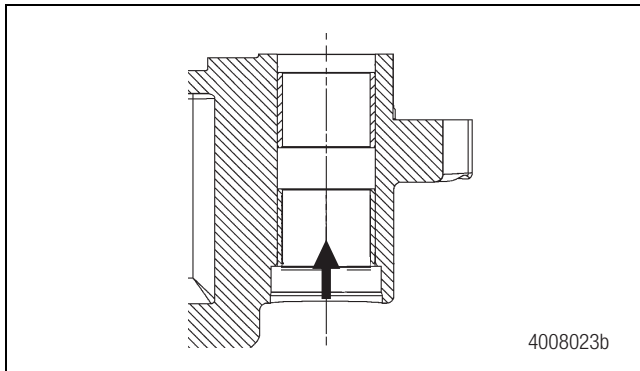

Figure 6.39
- Repeat Steps 1-3 to install the second bushing, but insert the bushing from the end cap side of the bore. To confirm the correct position for the second bushing, measure the distance from the same end face of the housing (on the boot retainer side of the bore) to the bottom of the second bushing. Refer to the following table for correct dimensions. Figure 6.39.